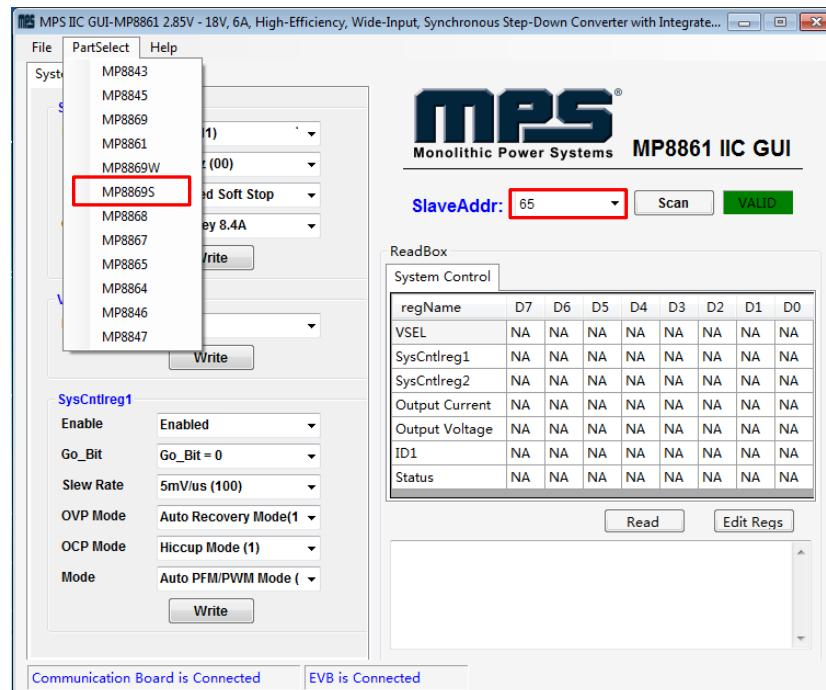
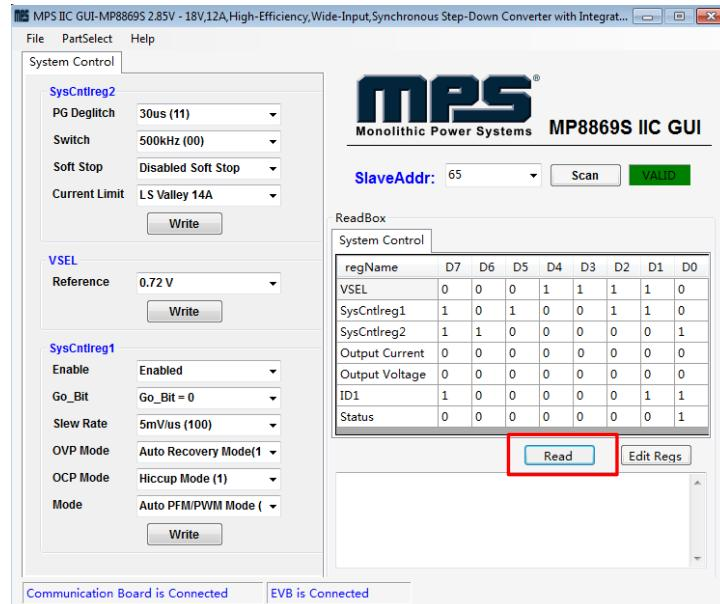

Figure 7: Appearance of Address Shows Successful Connection
Figure 9: Values from I2C Shown in Table
- If the connection is successful, the address will be listed in the “Slave Address” (see Figure 7).
3. Click the **PartSelect** button to select the MP8869S (see Figure 7) (The default GUI window is for the MP8861). The Register Control menu will appear on the left side. I2C register values will be read and displayed on the right side after clicking the **Read** button (see Figure 9).